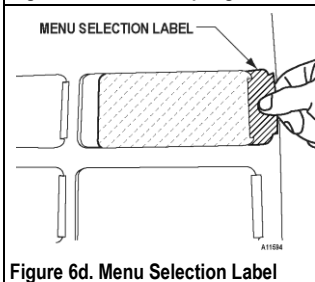

Figure 6d. Menu Selection Label
5. Locate the menu selection label behind the Top Sign Front. See **Figure 6d**. Carefully slide the menu selection label out of its pocket.